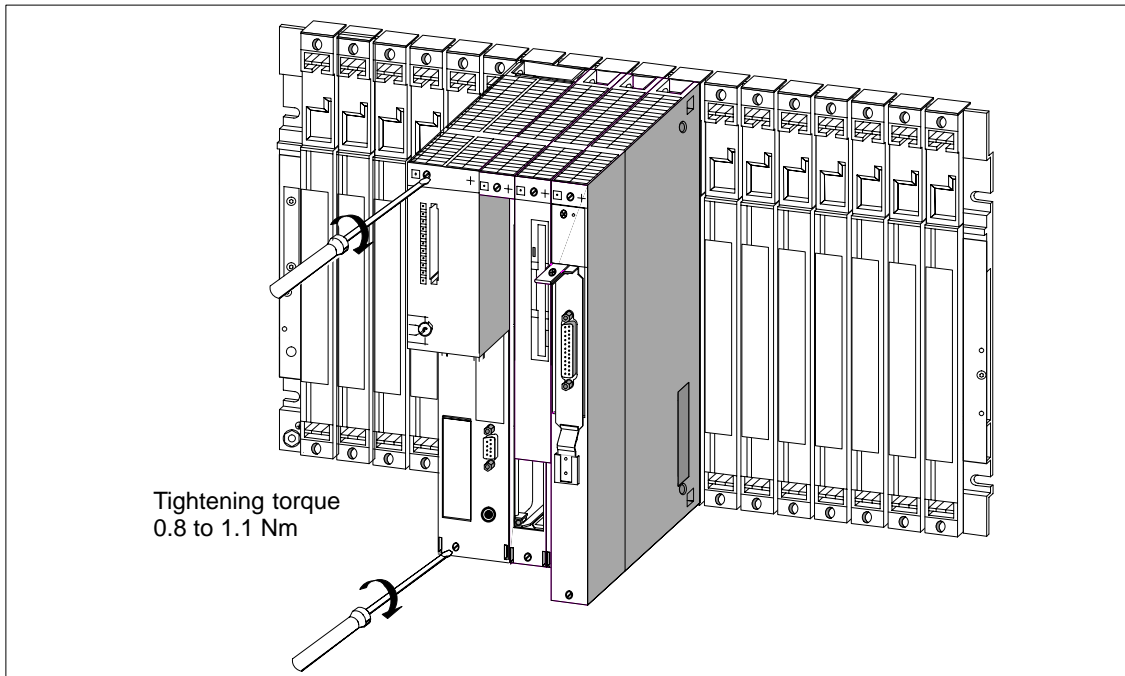

Figure 8-13 Screwing the Modules On
4. Screw on the modules of the module assembly top and bottom with a torque of 0.8 to 1.1 Nm (see Figure 8-13).
Figure 8-13 shows how to screw on the modules.